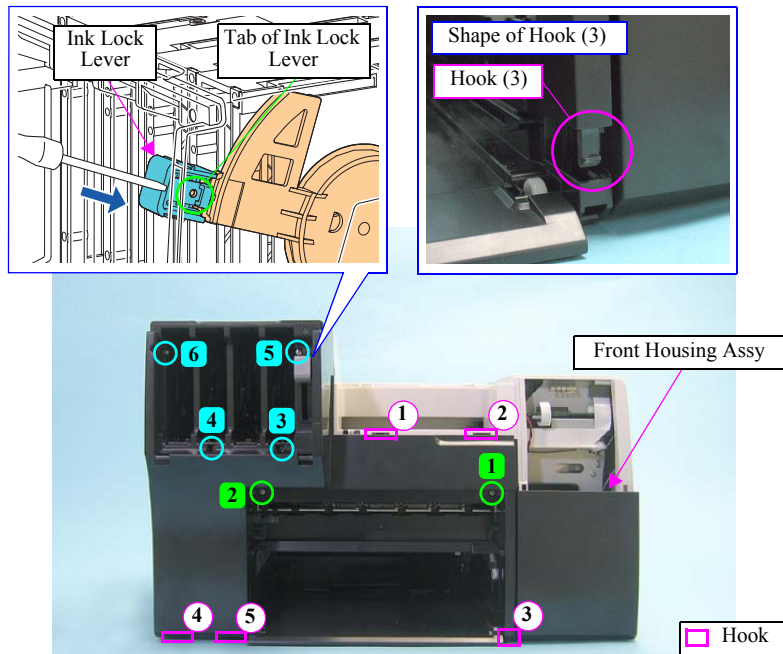

Figure 4-35. Removing the Front Housing Assy (1)
(The numbers in   shown in *Figure.4-35* indicate the order of tightening the screws.)
- When installing the Front Housing Assy, properly engage its hooks shown in *Figure.4-35* (engage three hooks on its bottom with the Lower Housing, and engage the other top two hooks with the Upper Housing.)